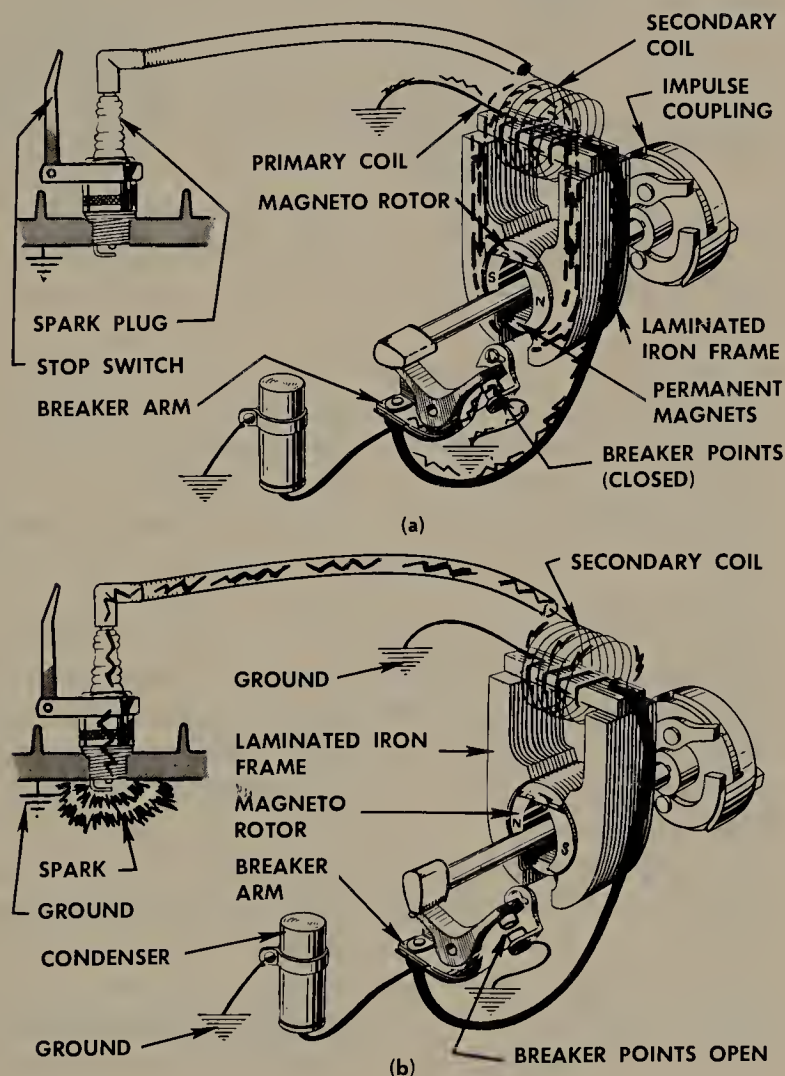

FIGURE 7.14 Schematic view of an external-type magneto ignition system. (a) Breaker points closed. (b) Breaker points open.
7.9 External Magneto. Some engines have an externally mounted magneto, as shown in Fig. 7.14. The magneto rotor is driven through an impulse coupling which will be explained later. As the rotor spins, it produces a magnetic field in the laminated iron frame on which the primary and secondary coils are wound. Each half turn of the magnetic rotor causes a complete reversal of the magnetic field in the laminated iron frame. This, in turn, causes magnetic lines of force to build up and collapse through the primary and secondary windings. Thus, a flow of current is induced in the primary winding all the time that the contact points are closed.